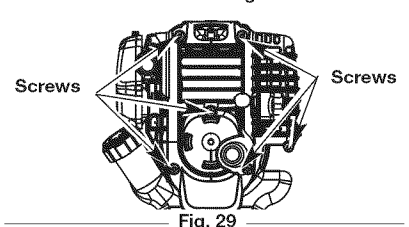

Fig. 29
1. Remove the six (6) screws on the back of the engine cover with a Flat-head or T-25 Torx screwdriver (Fig. 29).
4. Remove the engine cover (Fig. 29).
- Stop the engine and allow it to cool. Remove the six (6) screws on the back of the engine cover with a Flat-head or T-25 Torx screwdriver (Fig. 29).